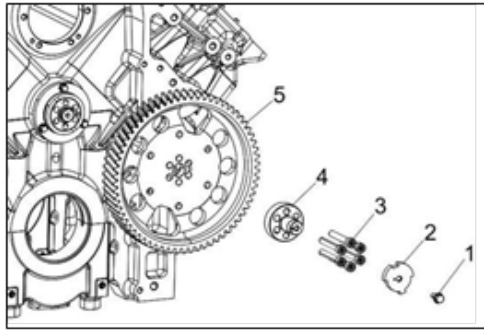

Figure 100.
2. Loosen the tightening bolt and remove the trigger wheel (Figure 100, item 2).
3. Remove the bolts (Figure 100, item 3) from the connecting shaft (Figure 100, item 4) of trigger wheel. Remove the connecting shaft, camshaft gear (Figure 100, item 5).